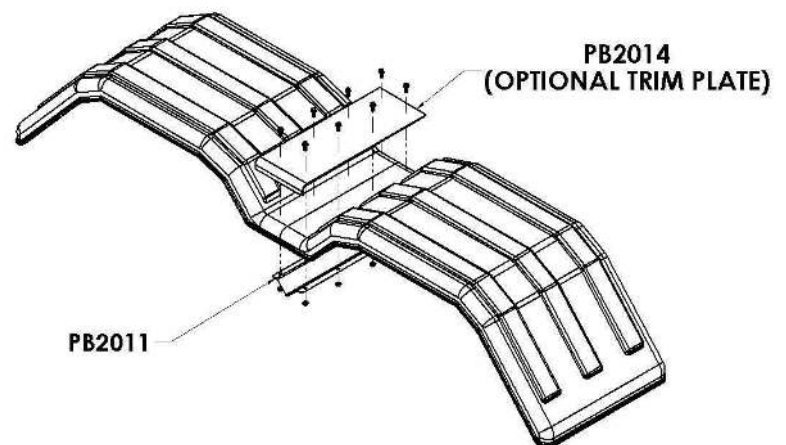

Figure 5
- D. Make sure the center bracket and trim plate (if purchased) are centered between the two fenders (Figure 5).